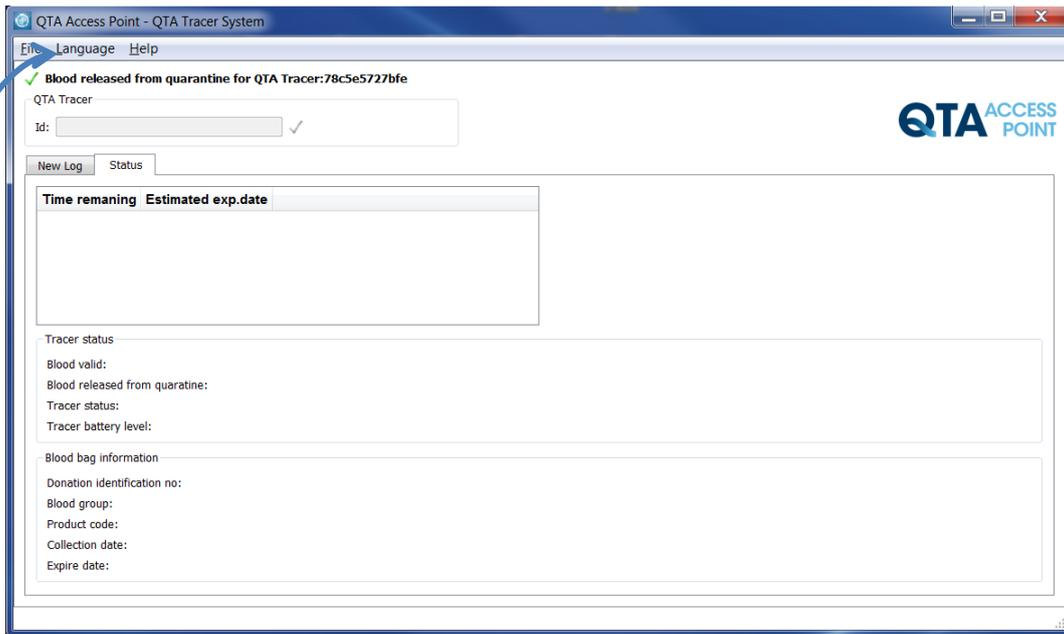

Figure 2 Blood released
5. The QTA Tracer is automatically disconnected when the blood is released. See below in Figure 2.